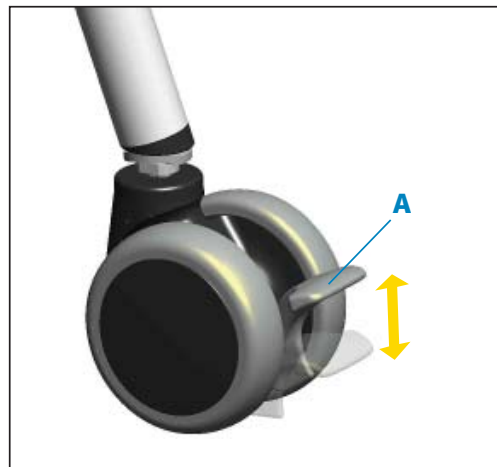

Figure 15b
To apply brake, step down on pedal (A) protruding from caster wheel (see Figure 15b). To release brake, lift pedal upward with top of foot.